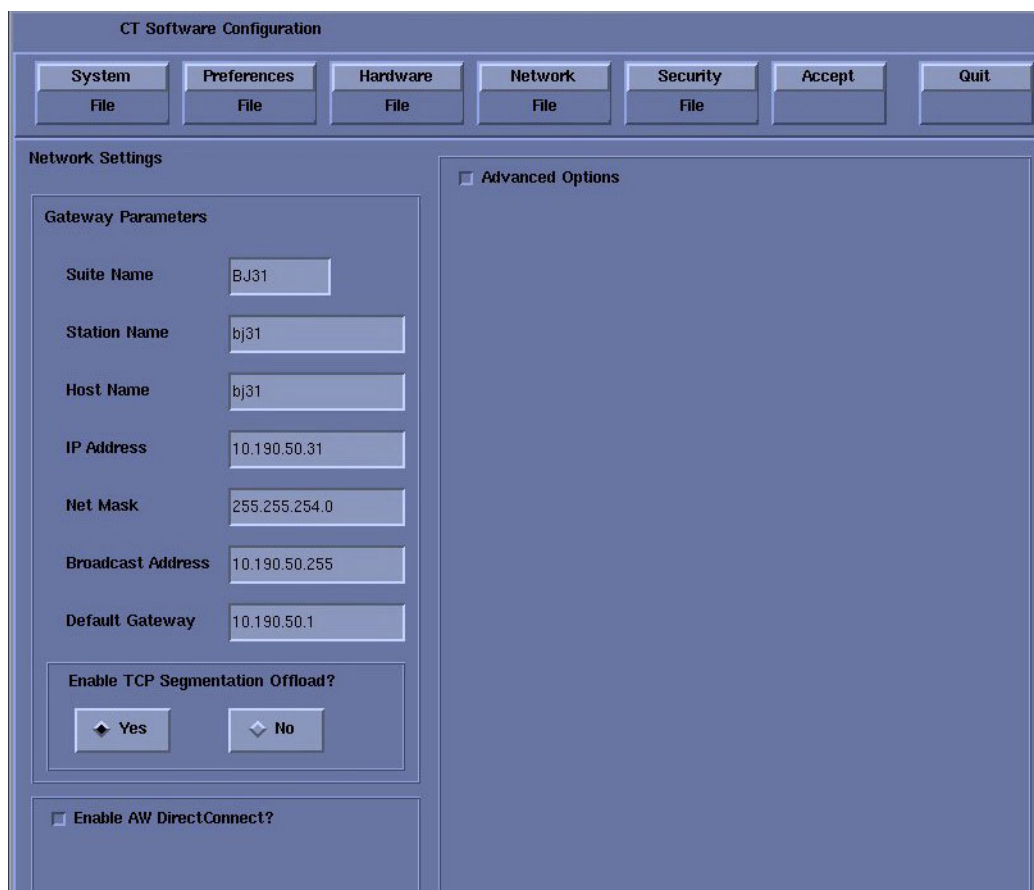

Figure 7-3 Networks Settings Screen
- 1.) Select the NETWORK button to display the Network Settings screen as shown in Figure 7-3.